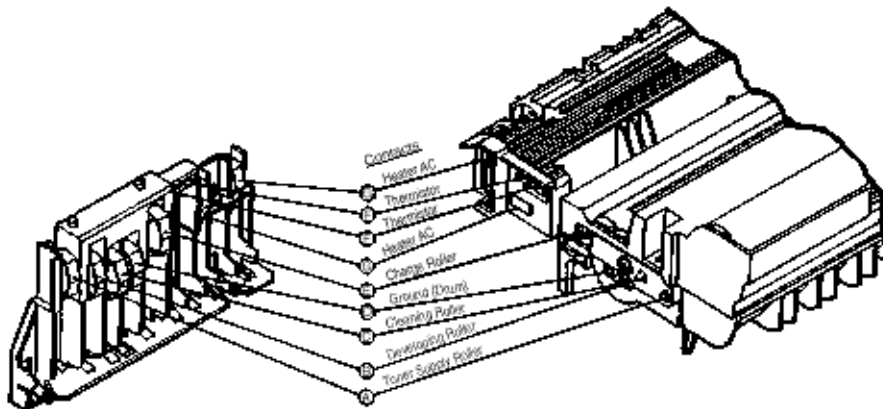

Figure 6-4
- Yes Is the contact of the fusing unit assy in proper contact with the contact assy (see Fig. 6-4 ③)?